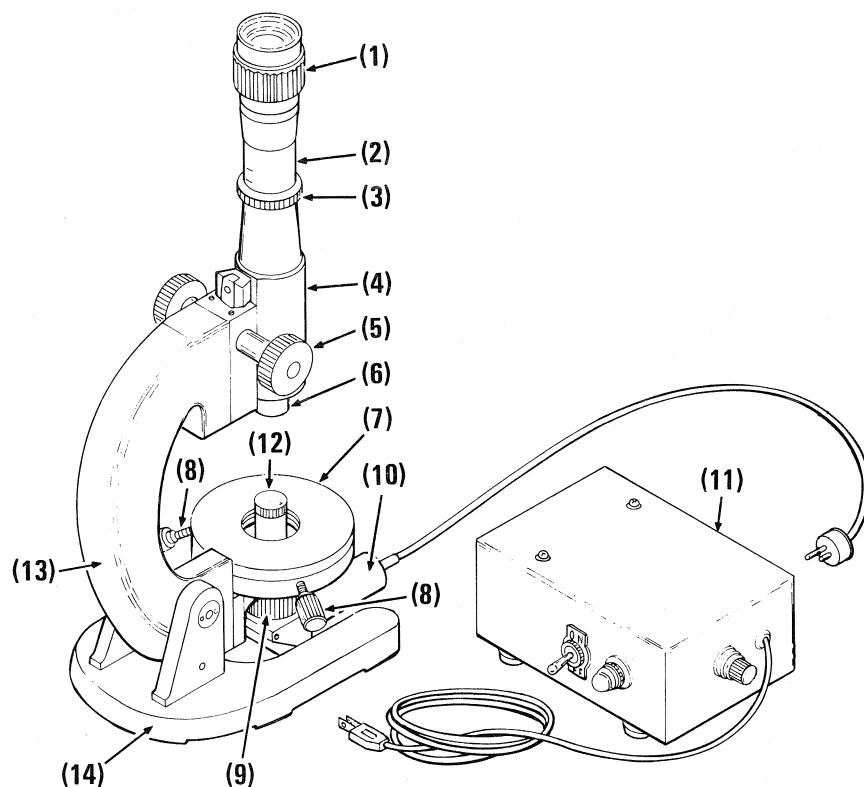

FIG. 6-1
The parts of the microscope are shown in Fig. 6-1 and are referred to in the text which follows. Referenced parts not shown in the illustrations will be found in the exploded drawings in Sec. 12.0.
- Loosen clamp ring (3), push microscope tube (2) to the bottom of its travel. Fig. 6-1.